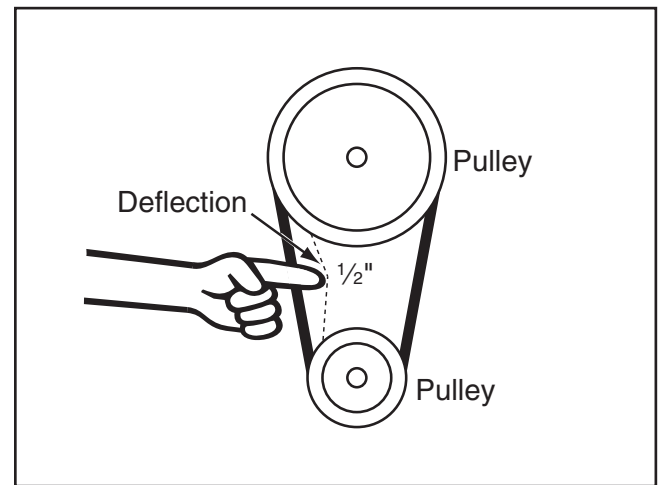

Figure 68. Checking V-belt tension.
5. Lower the motor and adjust the V-belt tension with the tension rod fasteners so there is approximately $\frac{1}{2}$ " deflection when the belt is pushed with moderate pressure, as shown in **Figure 68**.